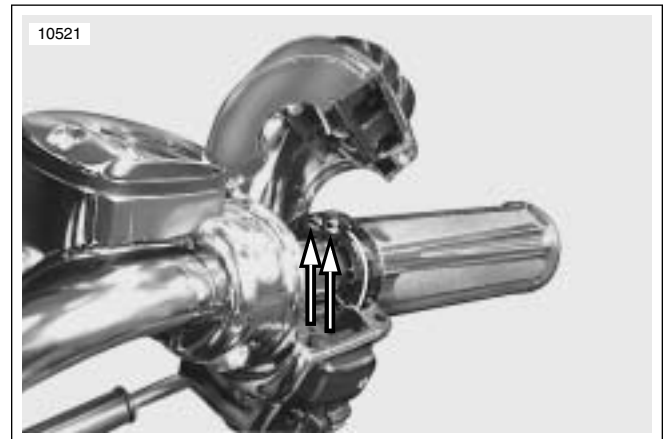

Figure 2-12. Throttle and Idle Cable Ferrules
8. See Figure 2-12. Raise upper housing enough to expose Throttle grip/cable assembly. Use a screwdriver to rotate cable ferrules in throttle grip notches. Remove cables from notches on inboard side of throttle grip.